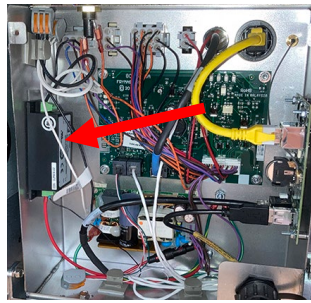

Figure 18
16. If an existing small black power supply is already installed in the FIB box, disconnect, and remove the power supply and **ALL** associated wires (see Figure 18), otherwise continue to next step.